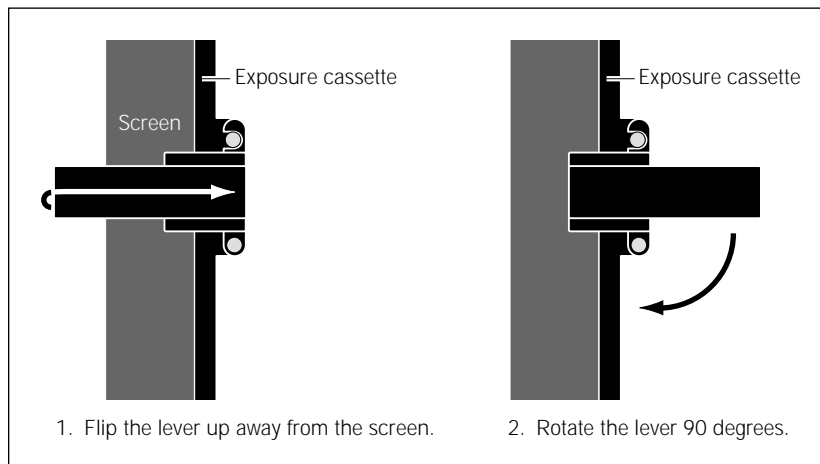

Figure 6-2. Opening the exposure cassette for mounted screens.
- **For mounted screens**—Flip the lever or levers on the cassette (figure 6-2), and then rotate the clamp or clamps clockwise so that they no longer cover the screen.